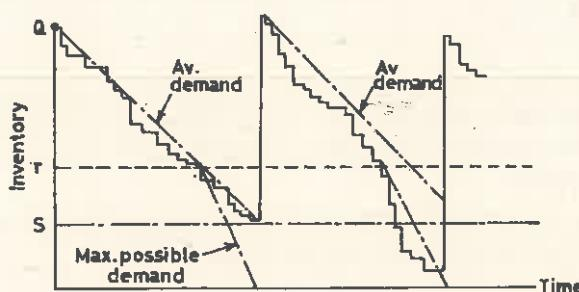

Fig 24.5. Inventory levels under conditions of fluctuating demand.
(3) Inventory model under risk
- Safety stocks (OS) can be defined as the difference between the reorder level and the average lead time demand (Fig. 24.5) Therefore as the reorder point is raised, the safety stock increases and the likelihood of a stockout during any cycle decreases.
- Fig. 24.5 shows the inventory pattern through time for a particular item which exhibits fluctuating demand.
- An order is placed whenever stock levels fall to ' r '. On the average, stock will be depleted to ' s ' when the replenishment order arrives. During the first cycle we see that demand was about average; however in the second cycle (Fig. 24.5) the demand was much greater than average. Protecting the system from a stockout during the lead time, was a safety stock maintained at S . If more protection was desired, the level of ' r ' could have been increased. With a higher ' r ', the safety stock would have been larger and the chances of a stockout occurring in any one cycle would have been lower.